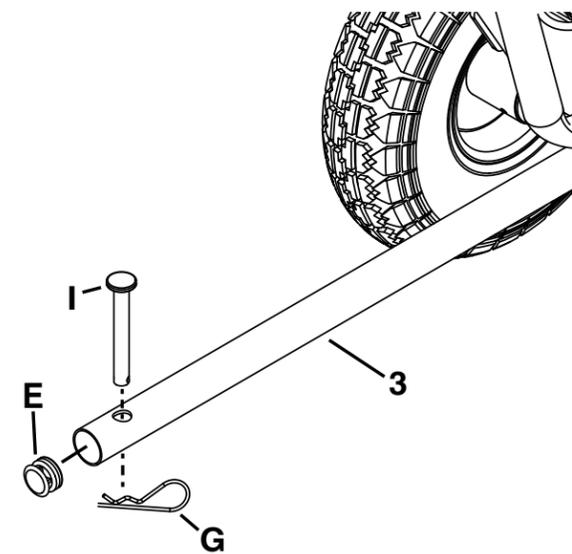

Figure 10
STEP 10 (SEE FIGURE 10): Insert a tube plug (E) into the end of the hitch tube (3). Insert the hitch pin (I) through the hitch tube (3) and secure with a hair cotter pin (G).